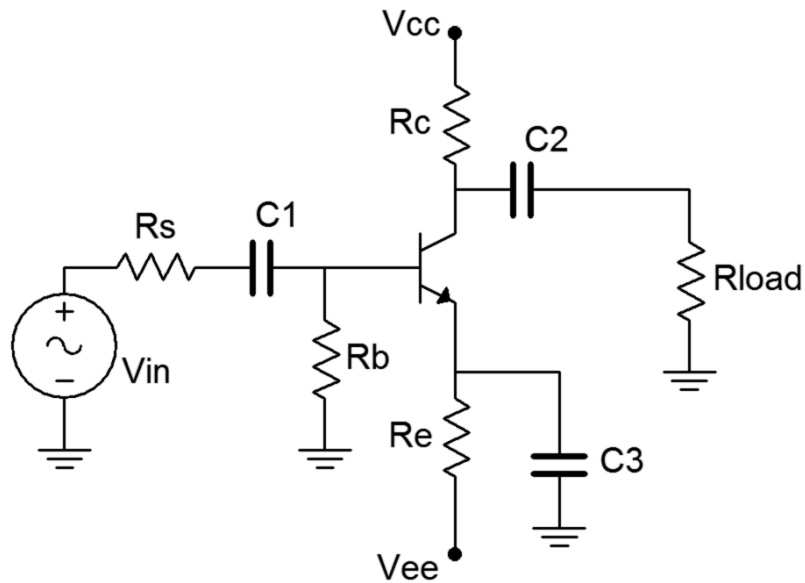

Figure 1
1. Consider the circuit of Figure 1 using $V_{cc} = 15$ volts, $V_{ee} = -12$ volts, $R_s = 10\text{ k}\Omega$, $R_b = 33\text{ k}\Omega$, $R_e = 22\text{ k}\Omega$, $R_c = 15\text{ k}\Omega$, $R_{load} = 20\text{ k}\Omega$, $C_1 = C_2 = 10\text{ }\mu\text{F}$ and $C_3 = 470\text{ }\mu\text{F}$. Using the approximation of a negligible base voltage, determine the DC voltages at the base, emitter, and collector along with the collector current, and record these in Table 1.
2. Build the circuit of Figure 1 using $V_{cc} = 15$ volts, $V_{ee} = -12$ volts, $R_s = 10\text{ k}\Omega$, $R_b = 33\text{ k}\Omega$, $R_e = 22\text{ k}\Omega$, $R_c = 15\text{ k}\Omega$, $R_{load} = 20\text{ k}\Omega$, $C_1 = C_2 = 10\text{ }\mu\text{F}$ and $C_3 = 470\text{ }\mu\text{F}$. Make sure that the AC source is turned off or disconnected. Measure the DC voltages at the base, emitter, and collector along with the collector current, and record these in Table 1. Note, you may wish to use a transistor curve tracer or beta checker to get approximate values of beta for each of the three transistors to be used.